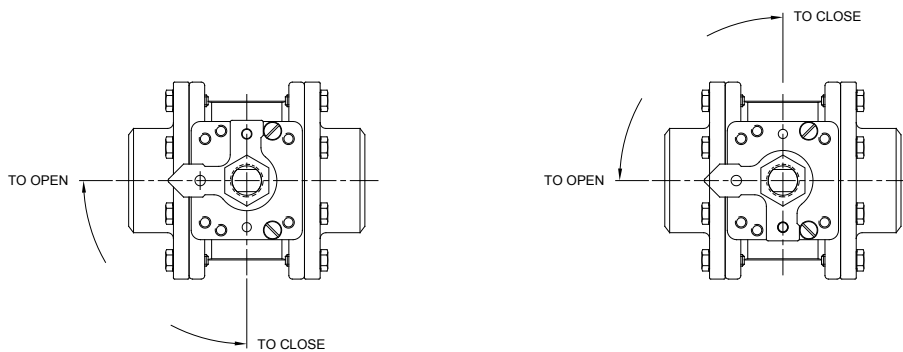

Fig. 3
- 5.3 For valve sizes 2 1/2" thru 4" there is a separate lock plate/indicator and valve lock-off is achieved by using a padlock or other suitable locking device. The handle is simply rotated provided no locking device is in place. There are two stop pins per assembly which can be relocated along with the stop plate to give opposite rotation (see fig. 3) and different start positions. Thereby the valve is either clockwise to open and counter-clockwise to close or counter-clockwise to open and clockwise to close.